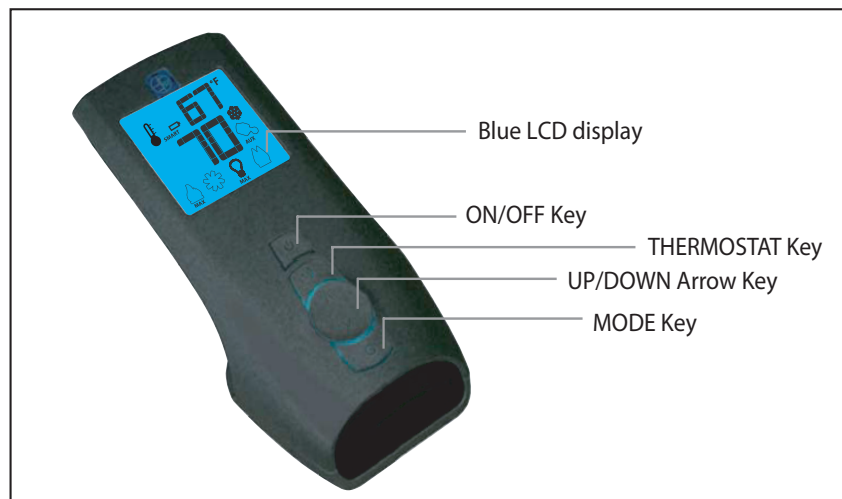
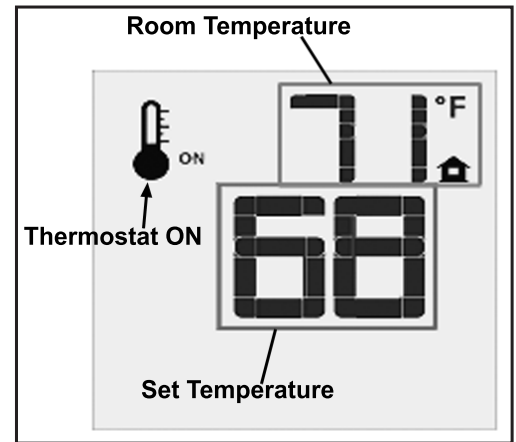
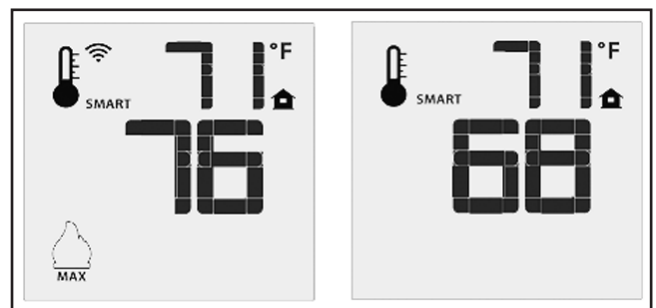

Figure 4: Proflame 2 Transmitter.
Figure 9: Remote Control Displays Set Temperature.
Figure 10: Remote Control's Smart Flame Function.
The Proflame 2 Transmitter is a black remote control with a blue backlit lcd display. It uses a streamline design with a simple button layout and informative lcd readout (Figure 5). The Transmitter is powered by three (3) AAA type batteries. A Mode Key is provided to Index between the features and a Thermostat Key is used to turn on/off or index through Thermostat functions (Figure 4 & 5)
Press the ON/OFF Key on the Transmitter. The Transmitter LCD display will only show the room temperature and Icon (see Figure 9). A single “beep” from the IFC confirms reception of the command and both the pilot light (if the unit is not set to continuous pilot) and main burner will turn off.
The Remote Control can operate as a room thermostat. The thermostat can be set to a desired temperature to control the comfort level in a room. To activate this function, press the Thermostat Key (see Figure 4). The LCD display on the Transmitter will change to show that the room thermostat is “ON” and the set temperature is now displayed (see Figure 9). To adjust the set temperature, press the Up or Down Arrow Keys until the desired set temperature is displayed on the LCD screen of the Transmitter.
The Smart Thermostat function adjusts the flame height in accordance to the difference between the set point temperature and the actual room temperatures. As the room temperature gets closer to the set point the Smart Function will modulate the flame down. To activate this function, press the Thermostat Key (Figure 4) until the word “SMART” appears to the right of the temperature bulb graphic (Figure 10). To adjust the set temperature, press the Up or Down Arrow Keys until the desired set temperature is displayed on the LCD screen of the Transmitter.
2. Remove the (14) T-20 bolts retaining the access panels as shown in Figure 10.